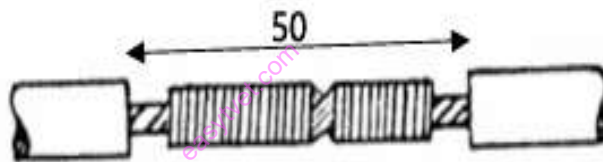

Figure 1
- i. Married joint using a 4.0mm^2 stranded cable as shown in figure 1